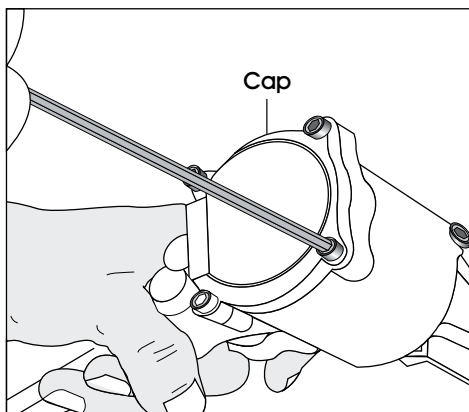

Figure 34
7. Loosen screws with a 3 mm Allen wrench and remove the cap. (See Figure 34)